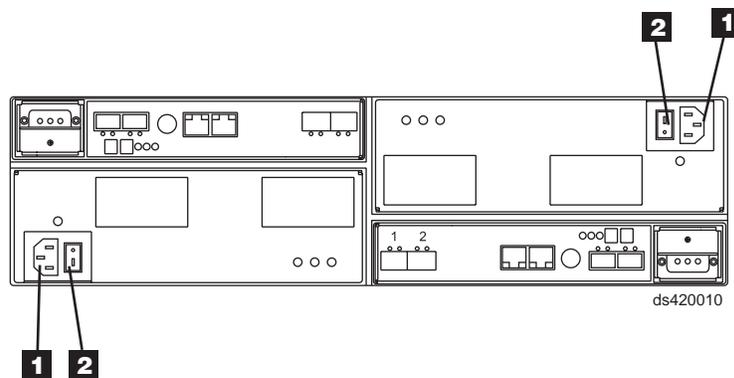

Figure 61. Power supply switches and connectors for the DS4200 Express
6. Turn on both AC power switches on the back of each controller in the storage subsystem. Figure 61 shows the location of the AC power switches on the controllers.
Table 19. Description of Figure 61 on page 82